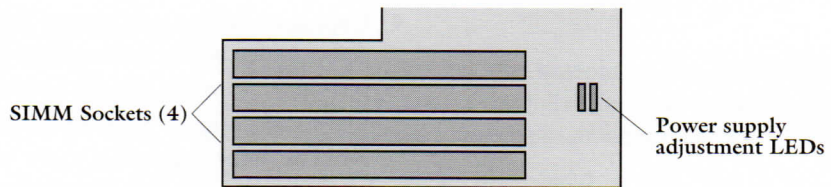

Figure 13 : Power supply adjustment LEDs
The Macintosh has an adjustable power supply designed to operate between 4.9 and 5.0 volts. There are two LEDs on NewLife that make power supply adjustment fast and easy (Figure 13).
2. Observe the red and yellow power supply adjustment LEDs. If neither one is illuminated, no adjustment is necessary (Figure 13).